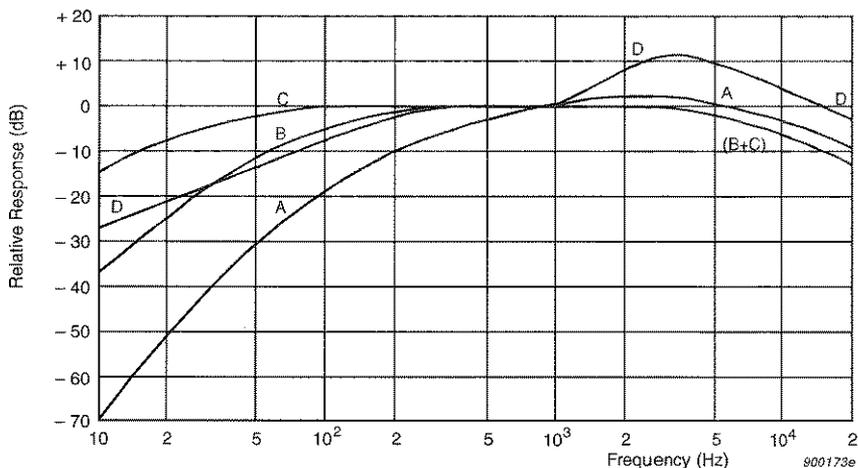

Fig. 10.2 Standard A-, B-, C-, and D-weightings
- Standard weightings A⁻¹-, A-, B-, C-, D- and L-weighting are permanently available from the internal memory (see Fig. 10.2). If L-weighting is selected, you can enter a constant to be added to the entire spectrum.